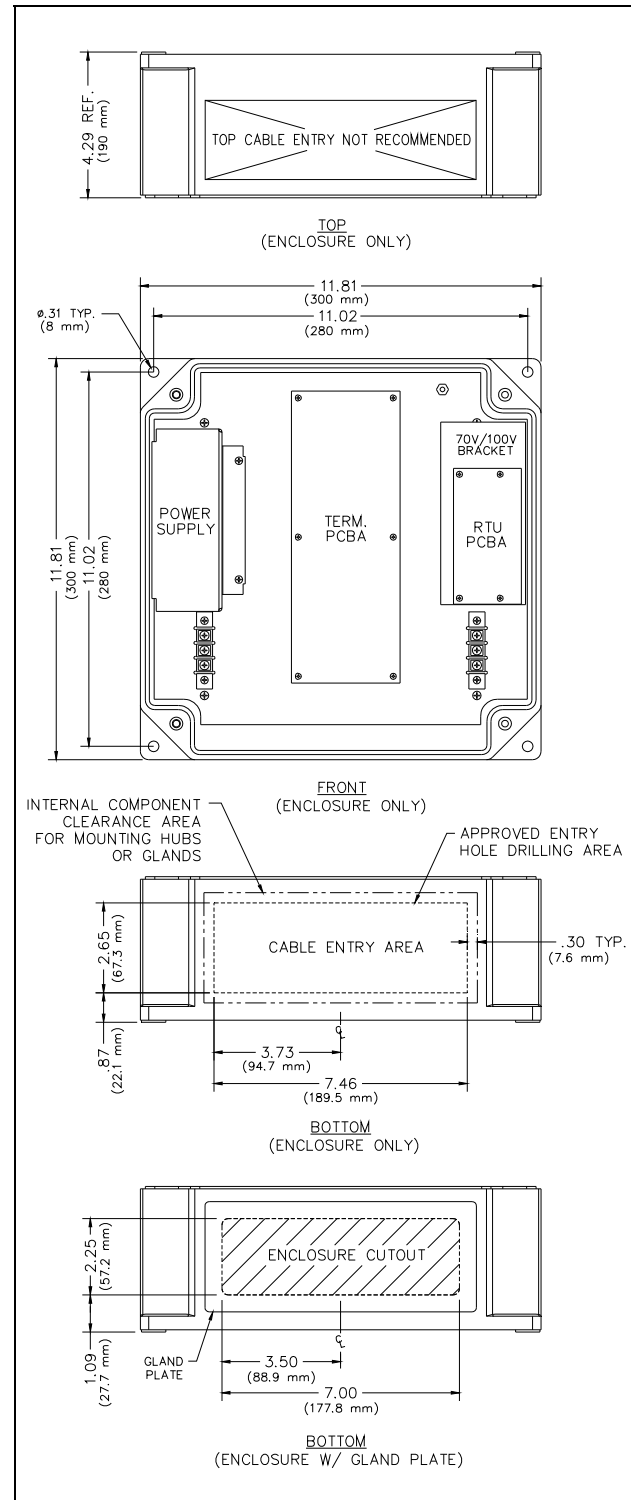

Figure 3. Suggested Cable Entry Locations
- Bottom entry is recommended to prevent moisture from dripping onto the terminals. Top entry is not recommended (see Figure 3).
2. Drill or punch entry openings in the rear section of the enclosure (see Figure 3).
The suggested mounting height for all station enclosures is 48 inches (1219 mm) to the center of the bottom mounting holes of the enclosure (see Figure 3).